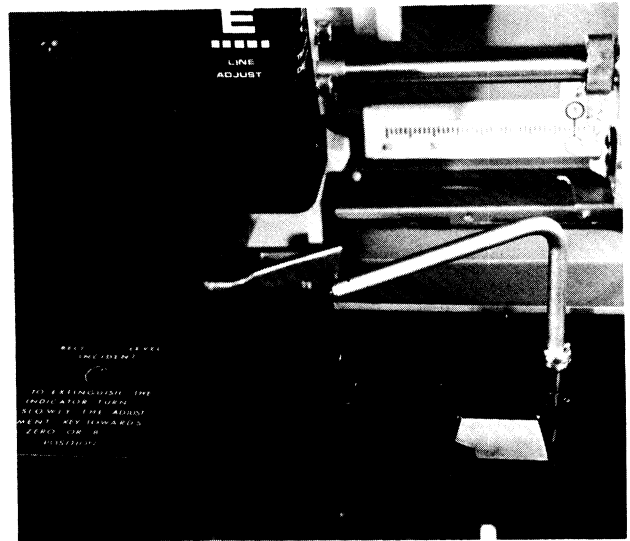

Figure 3-26. Belt Adjusting Key Inserted
2. Insert belt adjusting key into slot (Figure 3-26).
3. Insert belt adjusting key (Figure 3-26).